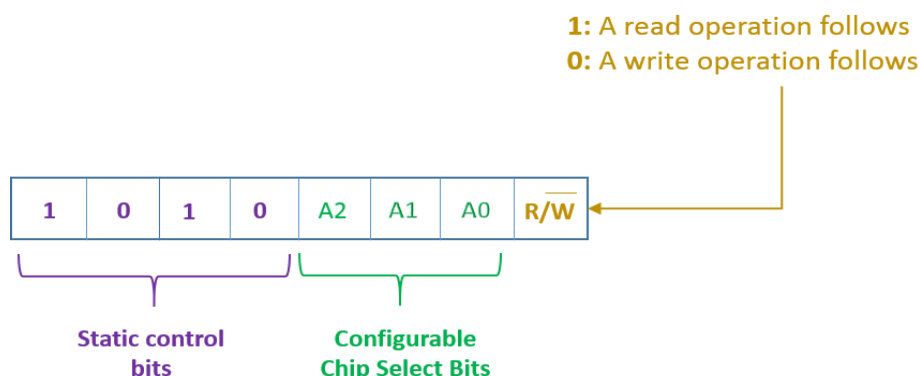

Figure 15: Control Byte of 24LC256 EEPROM Chip
4. Press the **K1** button on Pro DevKit and capture the I²C write transaction. Figure 15 illustrates only the first two of the total written bytes.
6. Press the **K1** button again on Pro DevKit and capture the I2C read transaction. Figure 15 illustrates only the first two of the total read bytes.